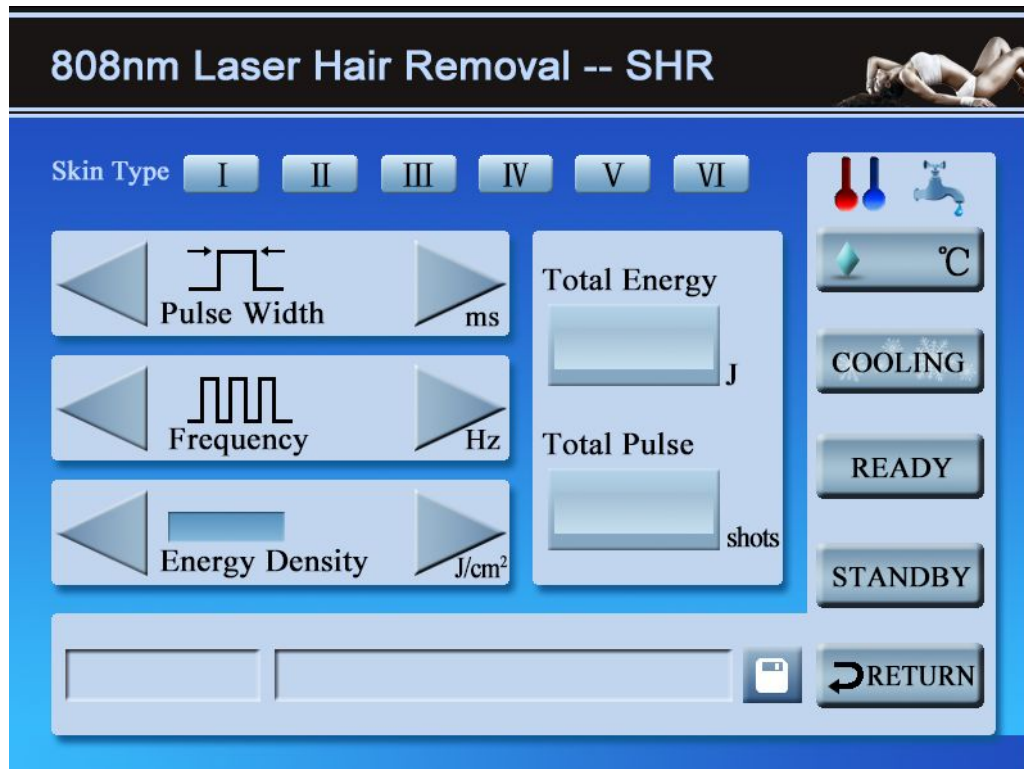

Figure 6.3 Energy density setting
4. Open the KCD on the back of the machine and turn the key from "OFF" to "ON" clockwise direction, turn right of the emergency stop switch to keep it in the release state, then the system start and the touch screen shows interface, as shown in Figure 6.3.